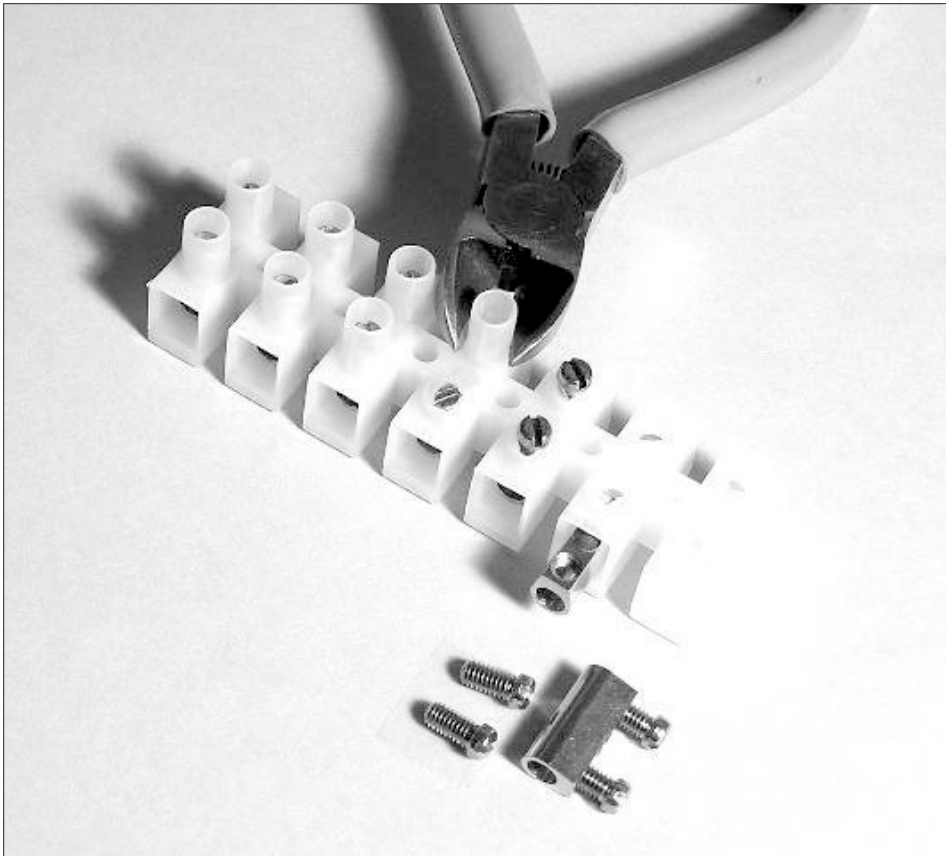

Figure 2: Terminal strip in various stages of disassembly.
- 6) Now, re-install both screws into the barrel to complete the first wire-to-wire connector, hereafter called a connector. Repeat Steps 4 through 6 to obtain a second connector. See Figure 2.